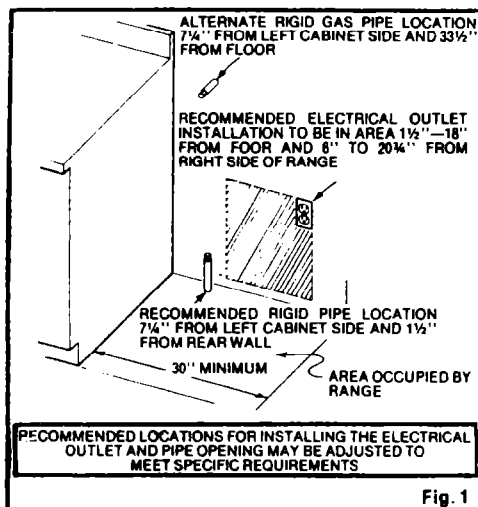

Fig. 1
- Recommended locations for the gas inlet pipe and electrical outlet are shown in Figure 1.
- See Figures 1—3 for all rough-in and minimum clearance dimensions.